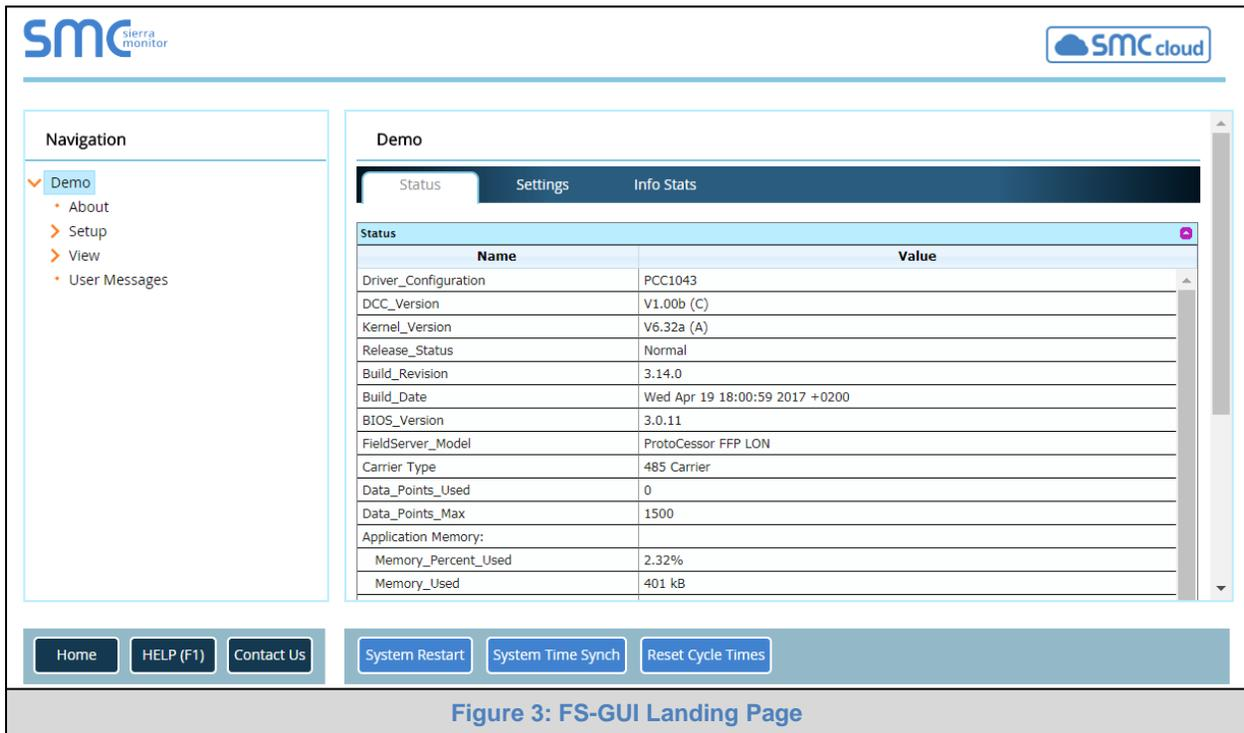

Figure 3: FS-GUI Landing Page
- Figure 3: FS-GUI Landing Page 8
The SMC Cloud button (see Figure 3) allows users to connect to the SMC Cloud, Sierra Monitor’s device cloud solution for IIoT. The SMC Cloud creates a secure remote connection to field devices through a FieldServer and its local applications for configuration, management, maintenance. For more information about the SMC Cloud, refer to the SMC Cloud Start-up Guide.